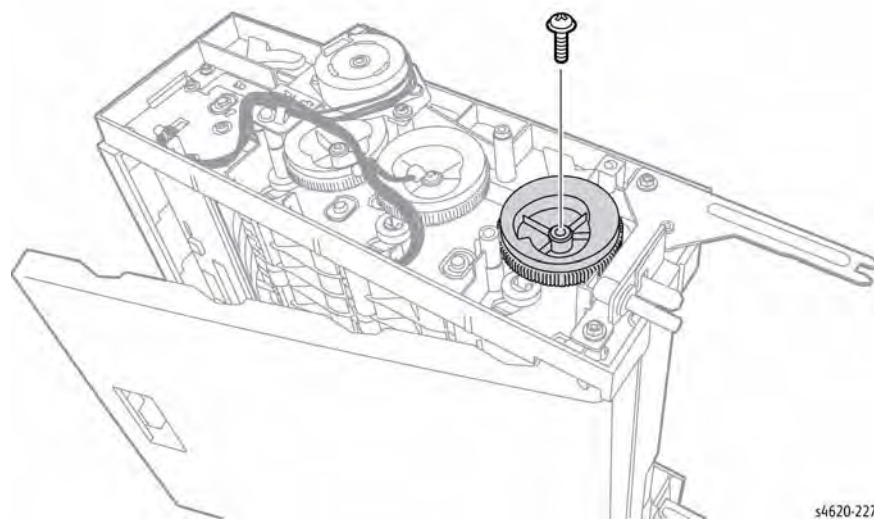

Figure 1 Remove the cam gear
5. Remove 1 screw (plastic) that secures the cam gear. Figure 1.